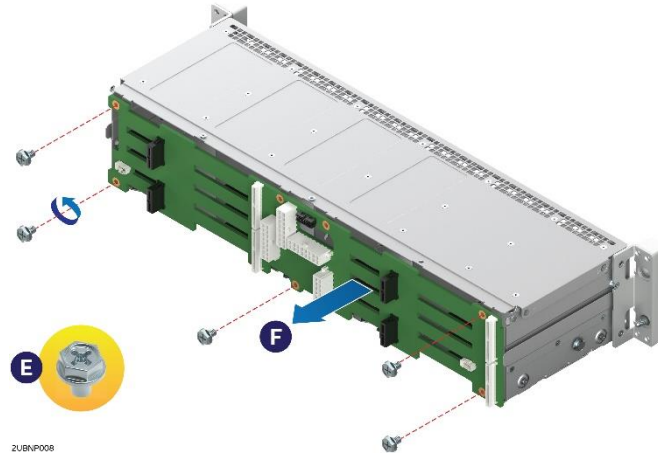

Figure 51. Removing the 4 x 3.5" backplane board from the drive cage
2. Remove the screws from the backplane board (E) and detach the backplane board from the drive cage (F) as pictured in Figure 51.